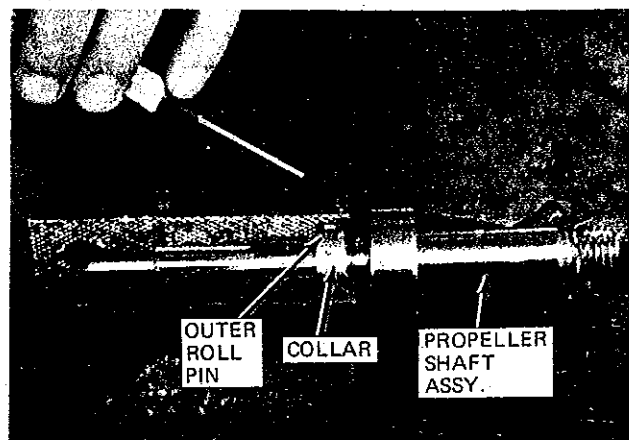

Figure 12. Drive out roll pin.
- M. Place the propeller shaft in a vise (holding it by the collar) and use a pin punch and hammer to drive out roll pin retaining collar (Figure 12).